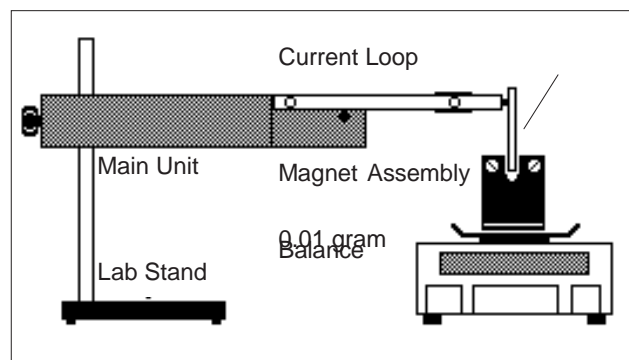

Figure 1.1 Equipment Setup
- ① Set up the apparatus as shown in figure 1.1.
- ② Determine the mass of the magnet holder and magnets with no current flowing. Record this value in the column under "Mass" in Table 1.1.
- ③ Set the current to 0.5 amp. Determine the new "mass" of the magnet assembly. Record this value under "Mass" in Table 1.1.
- ④ Subtract the mass value with the current flowing from the value with no current flowing. Record this difference as the "Force."
- ⑤ Increase the current in 0.5 amp increments to a maximum of 5.0 amp, each time repeating steps 2-4.
- ② Place the magnet assembly on the pan of the balance. With no current flowing, press the TARE button, bringing the reading to 0.00 grams.
- ③ Now turn the current on to 0.5 amp, and record the mass value in the "Force" column of Table 1.1.
- ④ Increase the current in 0.5 amp increments to a maximum of 5.0 amp, each time recording the new "Force" value.